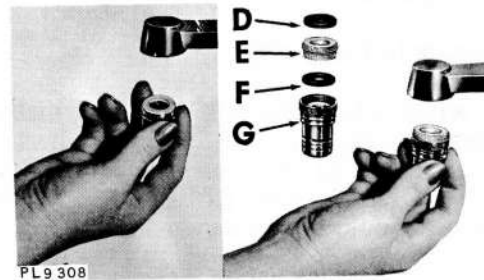

Fig. 8
Faucets with Internal Threads (Fig. 8)
2. Screw faucet adapter (E, Fig. 8) with washers (D & F, Fig. 8) to adapter (G, Fig. 8) and then to faucet.